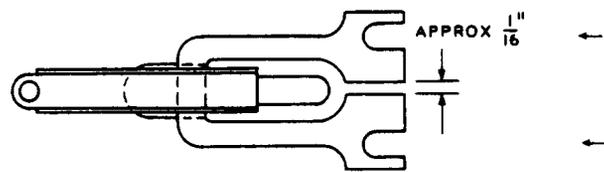

Fig. 7 - Armature
(3) When replacing a *welded armature*, remove the armature adjusting screw and the armature tension adjusting screw as outlined in (1). Loosen the armature mounting screws with the 3-inch cabinet screwdriver and attempt to remove the armature by rotating it upward away from the base using the upper armature mounting screw as a pivot. If the armature cannot be removed in this manner, it is equipped with mounting holes instead of open-end mounting slots and the armature mounting screws and associated parts must be removed and the new armature replaced as outlined in (2).
(4) If difficulty is experienced in meeting the readjust requirements, it is suggested that the armature be removed and modified by cutting, with a B splicers scissors, an approximately 1/16-inch wide section from the rear end of the spring as shown in Fig. 7, and the armature reassembled.